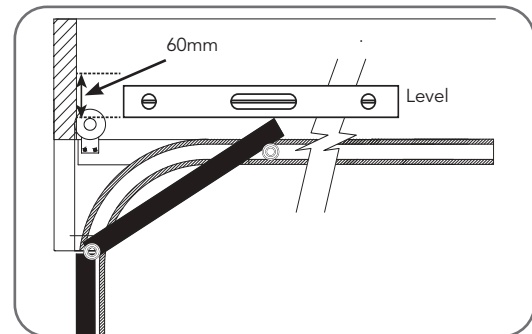

Fig.6.2.1
- Using step ladder and a level, transfer this height to the wall above the door and mark a line 2.36" (60mm) above it, across the centre line (Fig.6.2.1).